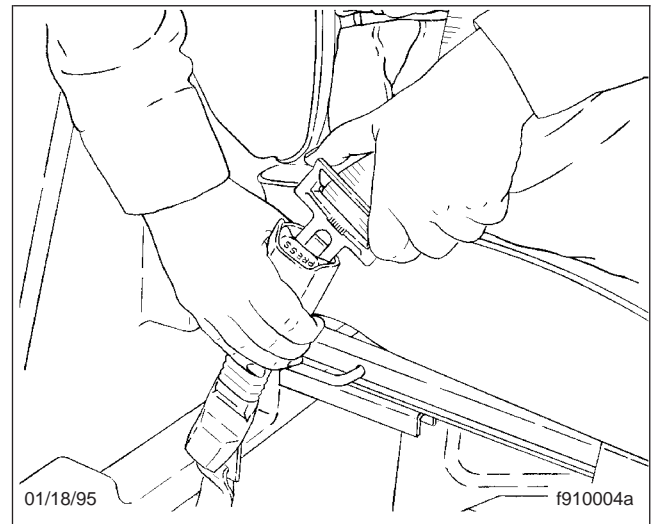

Fig. 5.7, Fastening the Three-Point Belt
2. Fasten the three-point seat belt by pushing the link into the buckle until it latches (Fig. 5.7). Give the belt a tug at the buckle. If the buckle unlatches, repeat this step. If the problem continues, replace the three-point seat belt.
2. Fasten the three-point seat belt by pushing the latch into the buckle. Listen for an audible click. See **Fig. 5.7**.